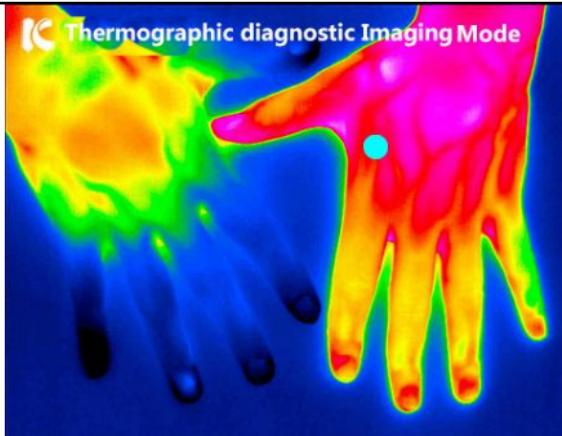

Figure 27. Thermographic diagnostic Imaging mode
STEP 1: Open the display interface of “QtScrcpy” , switch to the system homepage interface and click the up arrow in the red box (as shown in the Figure 27 below) ;